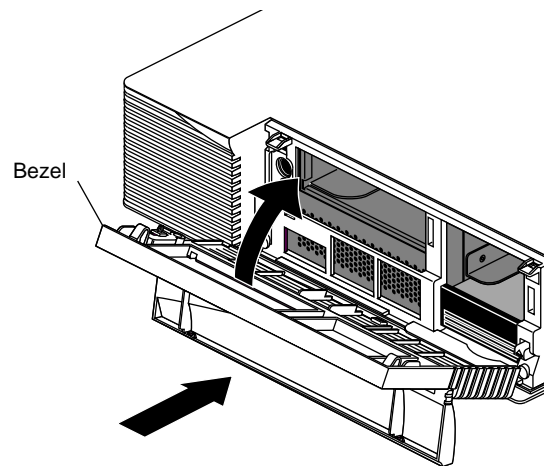

Figure 3-18 Replacing the Bezel
- Place the tabs on the bottom of the bezel in the grooves in the front of the chassis, as shown in Figure 3-18.